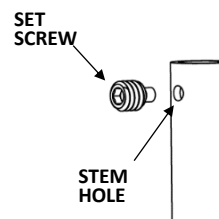

Fig. 4
##### **5. INSTALL BUSHING TO STEM. Fig. 4,5**
- Attach BUSHING to STEM as shown in Fig. 4.